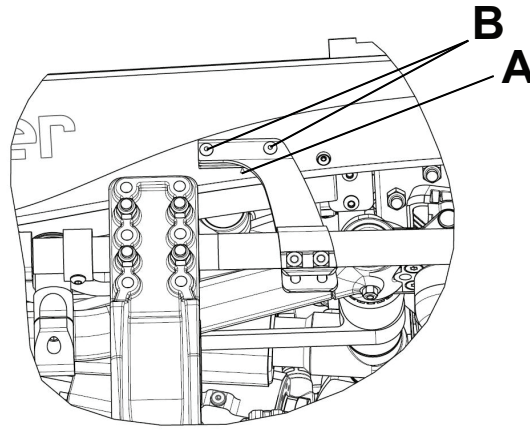

Figure 5 – Adjust the shut-off bracket
4. Adjust the shut-off bracket along the rail clamp until the diamond (A) on the outer rail label is centered between the pop rivet heads (B) on the in-ambulance shut-off (Figure 5).